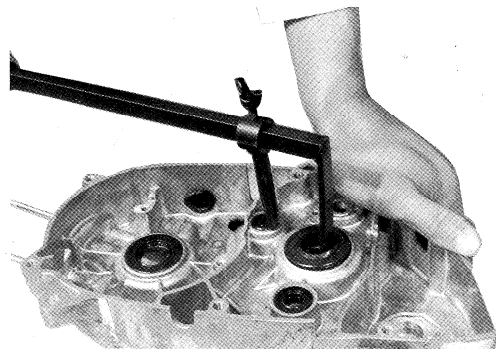

Fig. 5-4-29
29. Never fail to use a oil seal remover for removing oil seal from the cases, (Fig. 5-4-29) Be careful not to hold the blade against the oil seal lips in case the oil seal can stand further use, as this will damage the lips which are the most important part of the oil seal.